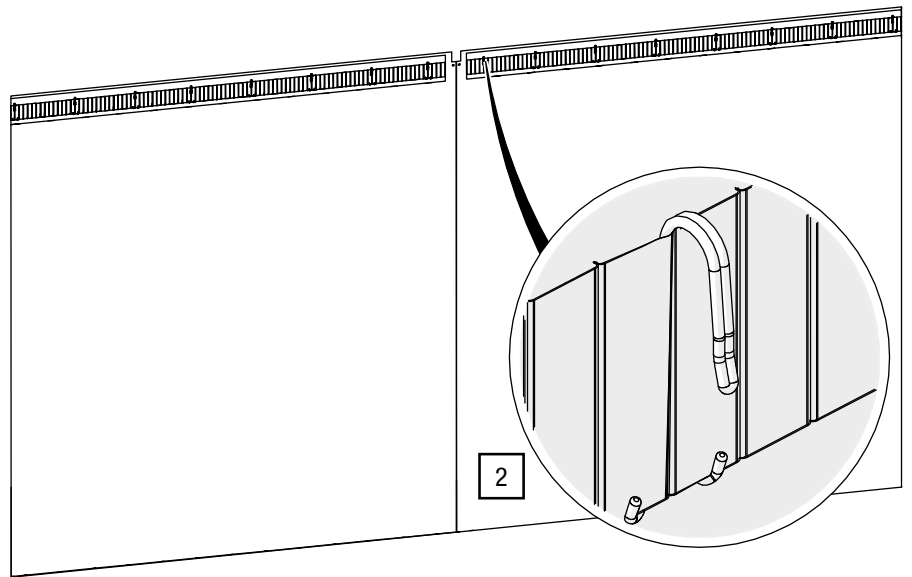

Fig. 112: Outer layers – Position the hooks in the pleating tape.
2. Check correct positioning (compare Fig. 112).